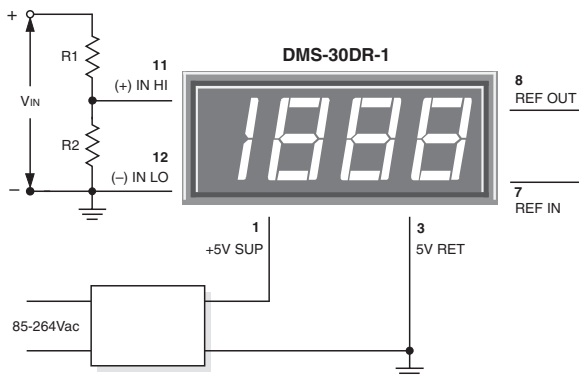

**Figure 3. Differential Input Configuration**
**2. Differential Input Configurations:** Differential measurements can be made with all DMS-30DR meters. Figure 3, though not a practical real-world application, uses a voltage divider to demonstrate the concept of a differential input signal. Be careful not to exceed the ±2V common mode voltage limitation for 5V-powered meters.